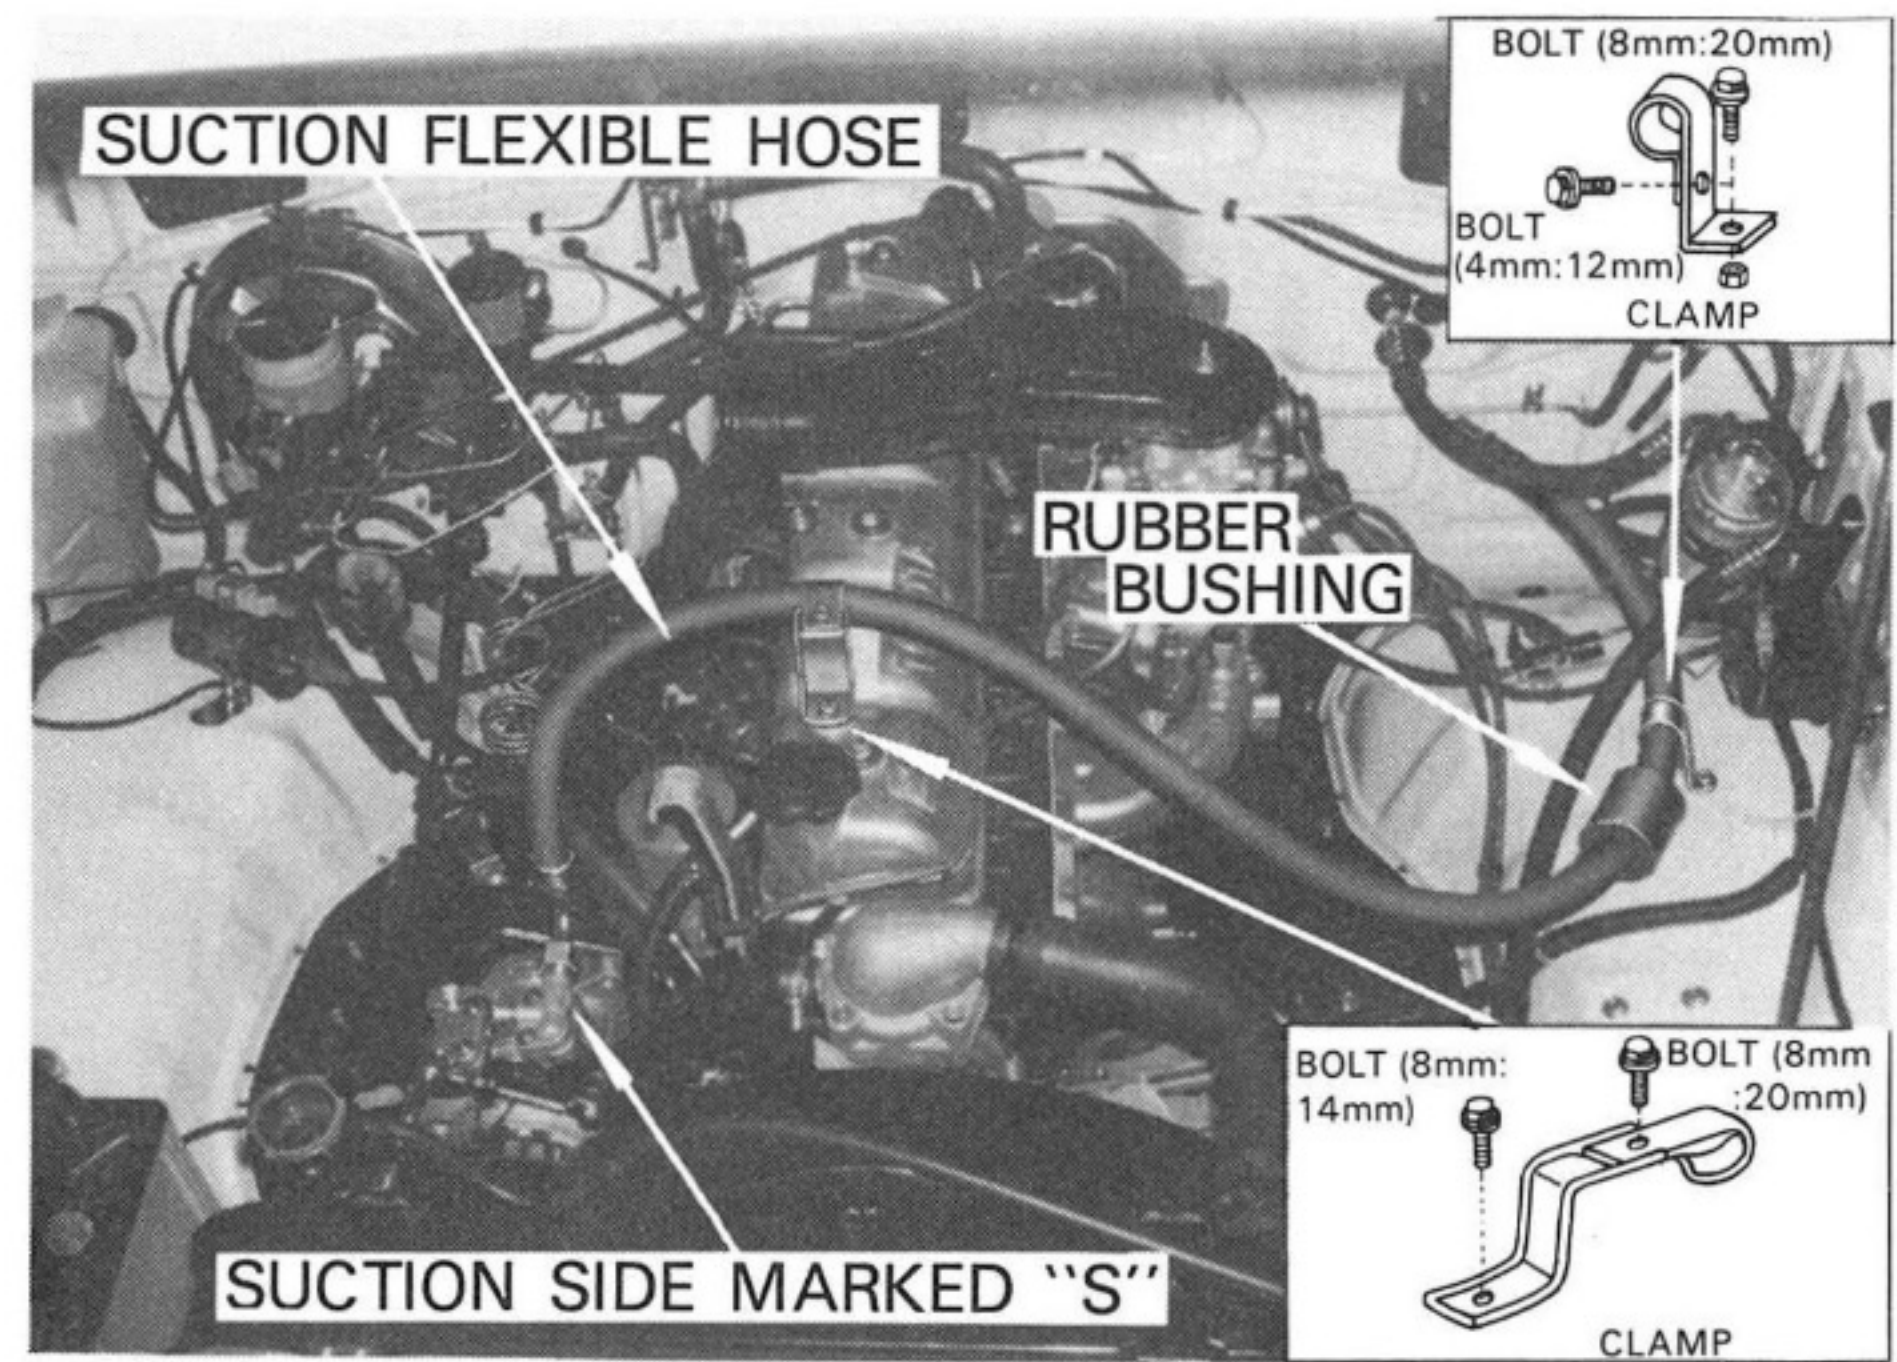

Fig. 33
- A) Route the suction flexible hose as shown in Fig. 33.